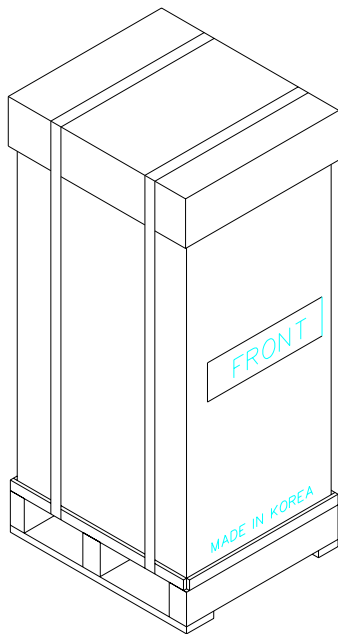

Fig.1
1. Cut the straps that are fastened around the box with a knife. (refer to Fig.1)